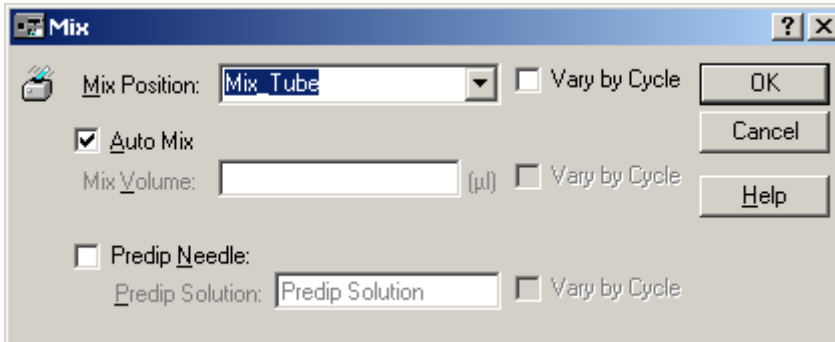

Figure 2.8
- 2.11.2 Transfer window (Fig. 2.8) will open.
- 2.11.3 Type in the information as shown in the Mix window (Fig 2.8).